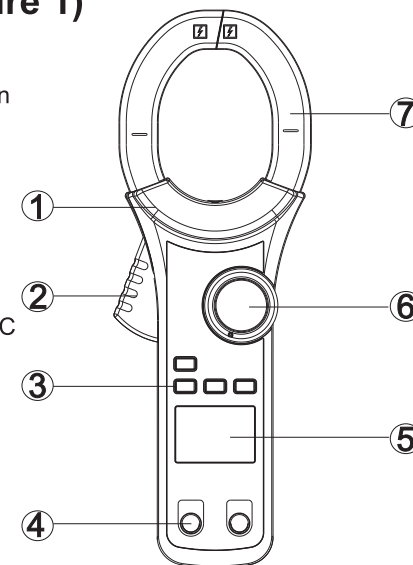

Figure 1
V. External construction (See Figure 1)